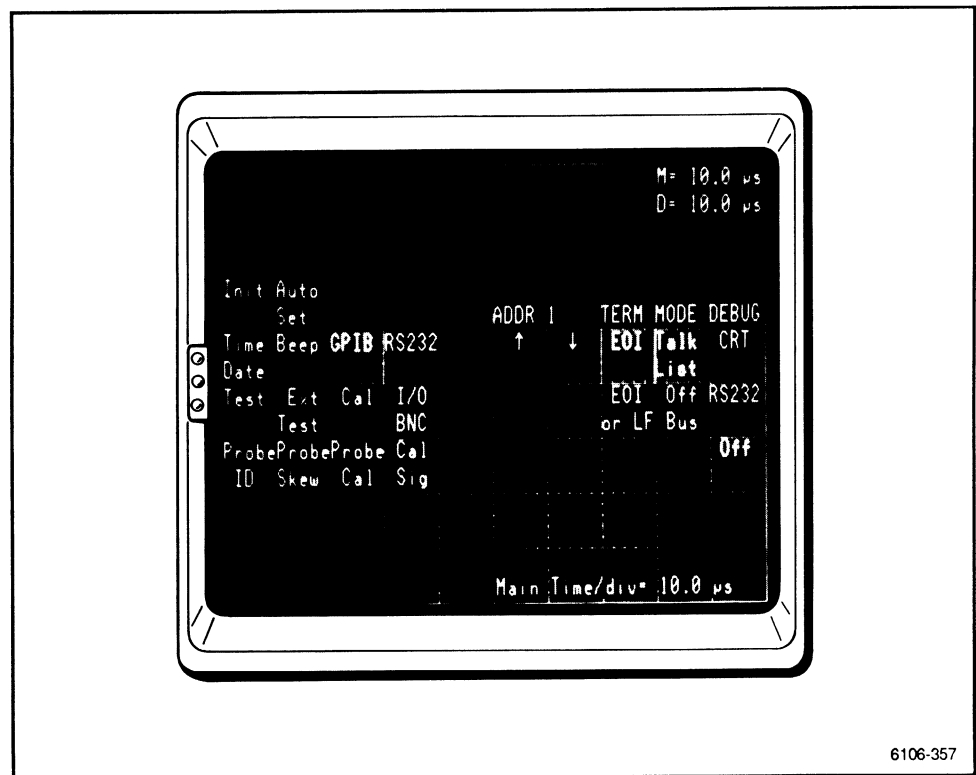
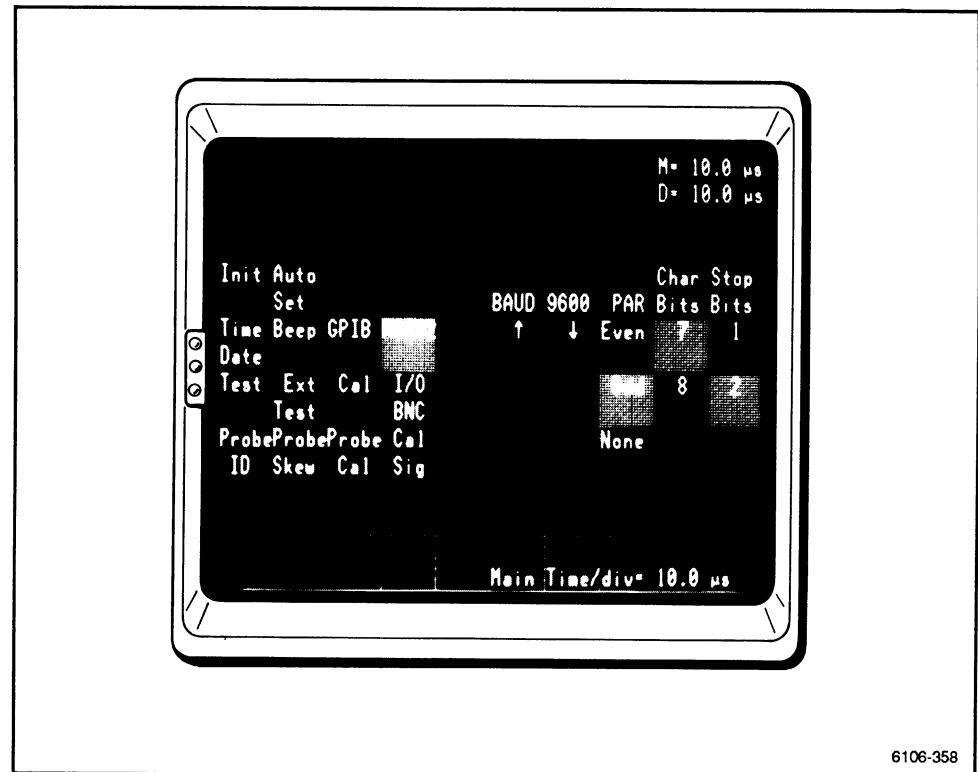

Figure 3-7. Typical GPIB Settings.
Figure 3-8. Typical RS-232-C Settings.
3. The GPIB communication interface requires selection of the Mode, Address, and Terminator parameters. The specific settings are determined by hardware or software constraints (see Fig. 3-7 for typical settings). The interface is ready for operation.
3. You must set baud rate, stopbits, character bits, and parity for the RS-232-C communication interface. Specific settings are determined by hardware or software constraints of the other RS-232-C device (see Fig. 3-8 for typical settings). The power-up value for each of these parameters is the value last set before power-down.
The interface menu settings for these examples are as shown previously in Figure 3-7 and Figure 3-8.